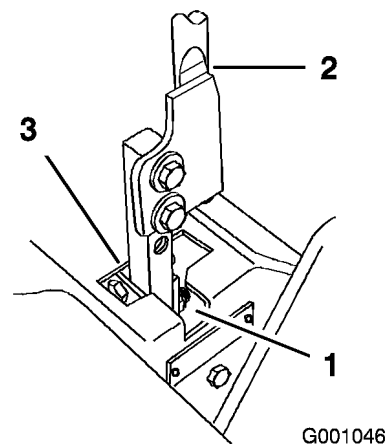

Figure 52
5. Move lever to the neutral position but not locked (Figure 52).
7. Check where the control lever is relative to the notch in the console (Figure 52). It should be centered, allowing the lever to pivot outward to the neutral lock position.